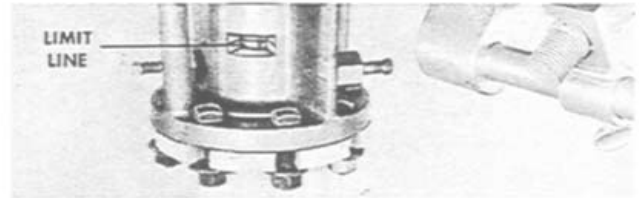

FIGURE 14
15. Check completion of cut by attempting to advance cutter by rotating feed crank counter-clockwise (clockwise on CH-6). If it does not advance easily, the cut has not been completed and automatic feed knob must be pushed in for further cutting (feed knob pulled out on CH-6). **CAUTION: STOP ADVANCING THE BORING BAR ON C1-36 WHEN THE LIMIT LINE ON THE BORING BAR BECOMES VISIBLE THROUGH THE DRIVE BOX DRAIN HOLE. Figure 14.**